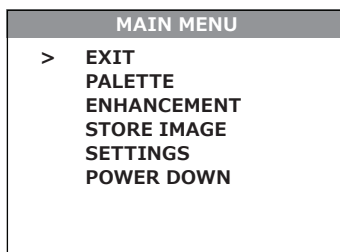

FIGURE 3-8. MAIN MENU
Once the MAIN MENU is displayed (Figure 3-8), use buttons (1) and (2) to navigate through items on the menu.